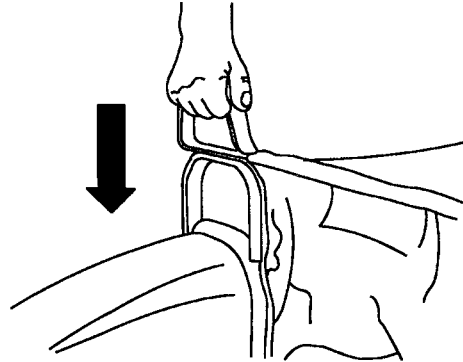

Figure 46
- Grasp bag assembly handle and slide over flange of grass chute (Fig. 46). Push downward on handle until it seats into position.